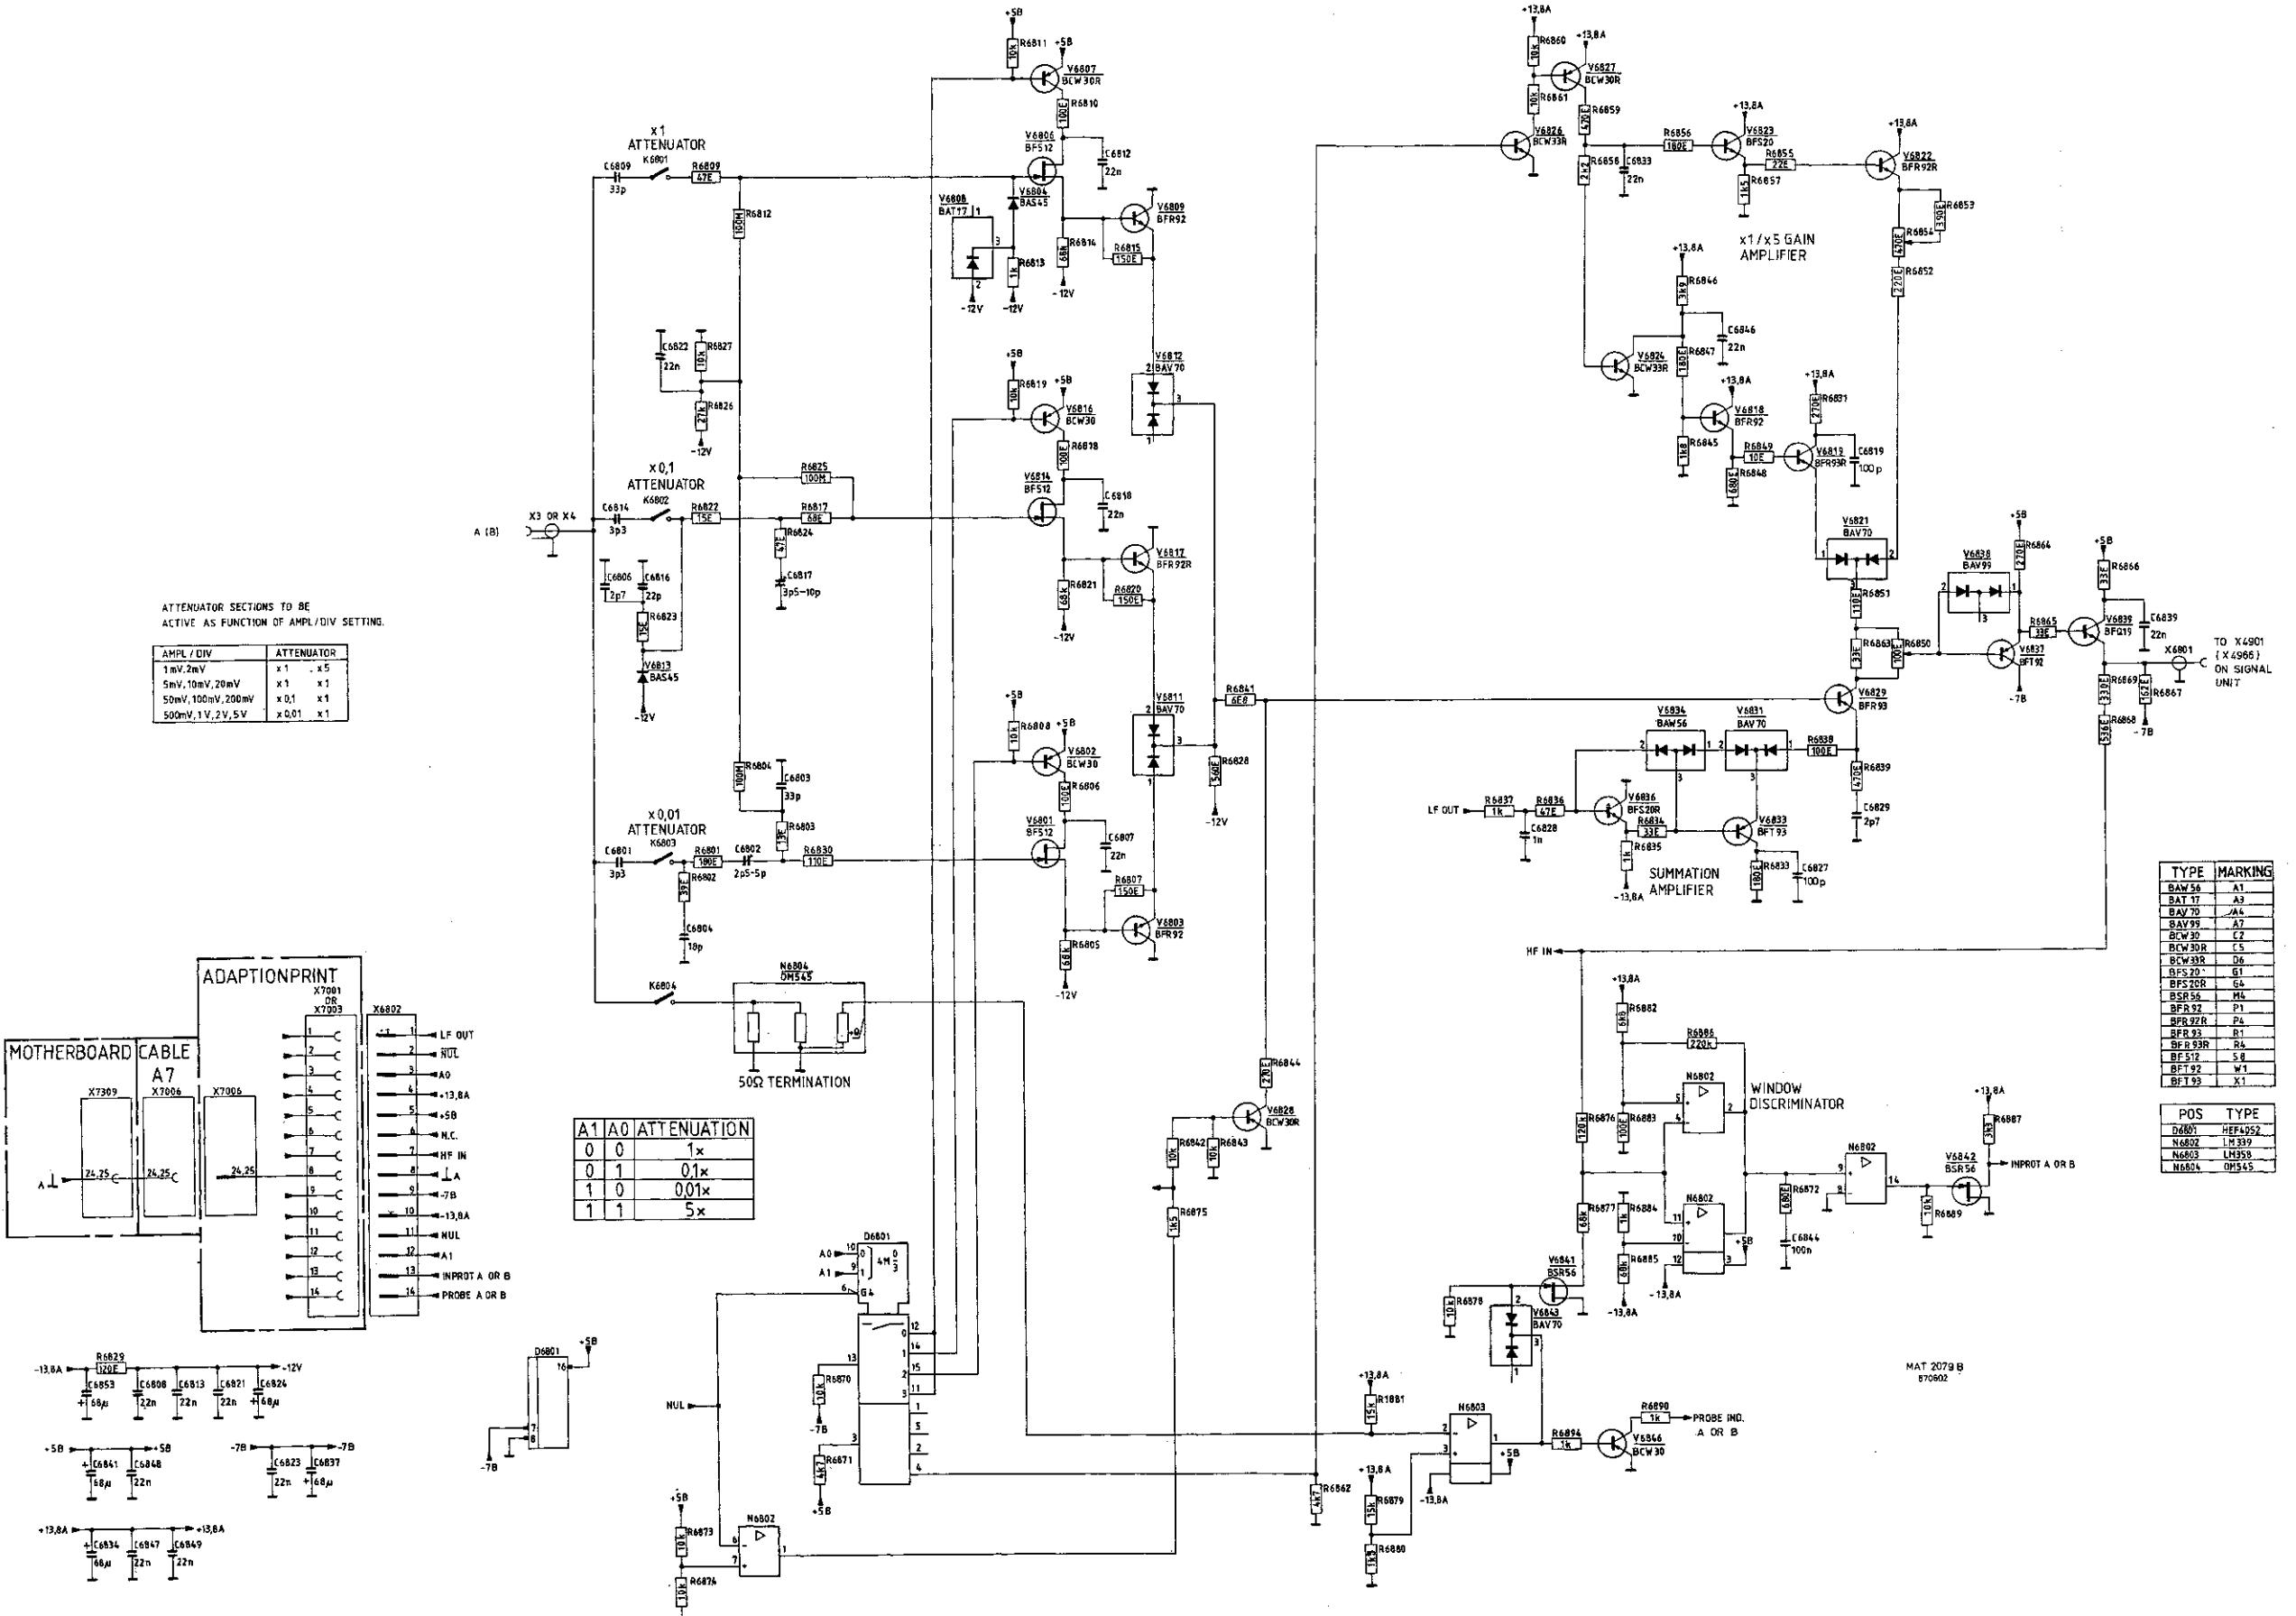

Fig.10.2. HF attenuator unit, circuit diagram
10.2 CIRCUIT DESCRIPTION OF SIGNAL PART OF THE HF ATTENUATOR UNIT (See fig.10.2).
- 10.4 CIRCUIT DESCRIPTION OF THE AUXILIARY CIRCUITS ON THE HF ATTENUATOR (See fig.10.2)